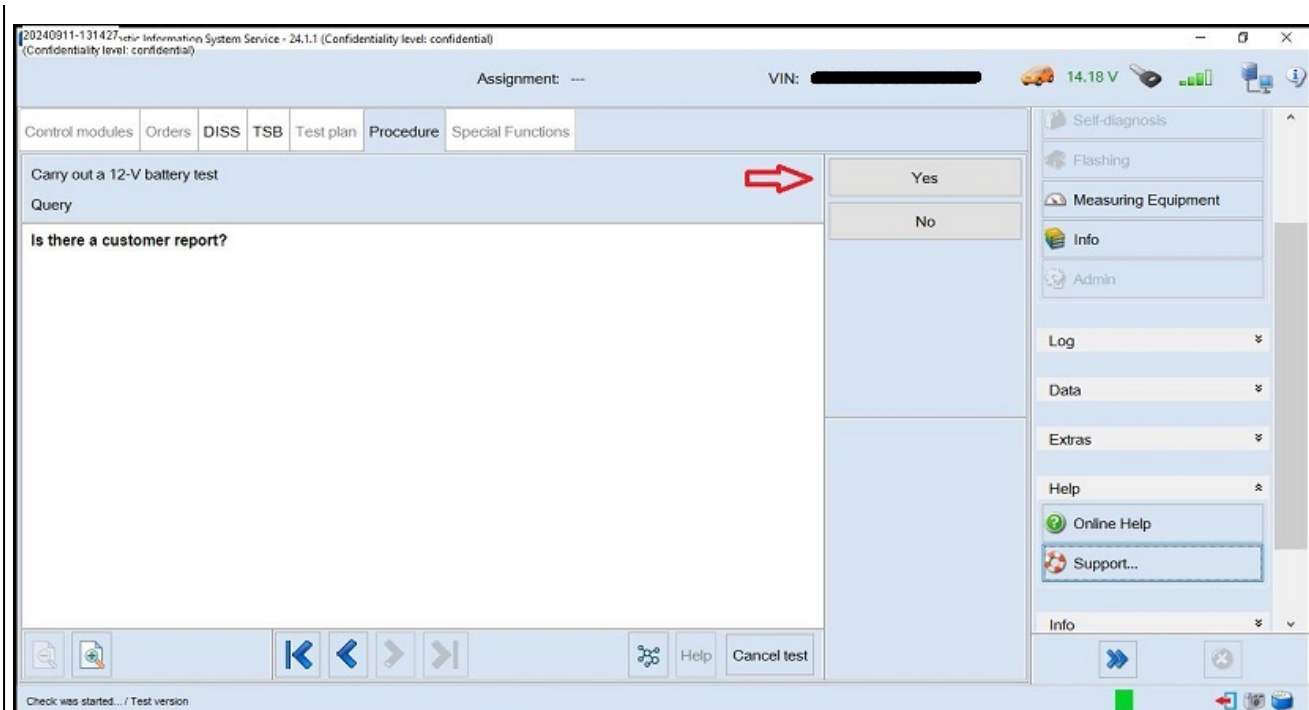

Figure 7
7. Is this a customer report, select “Yes” (Figure 7).